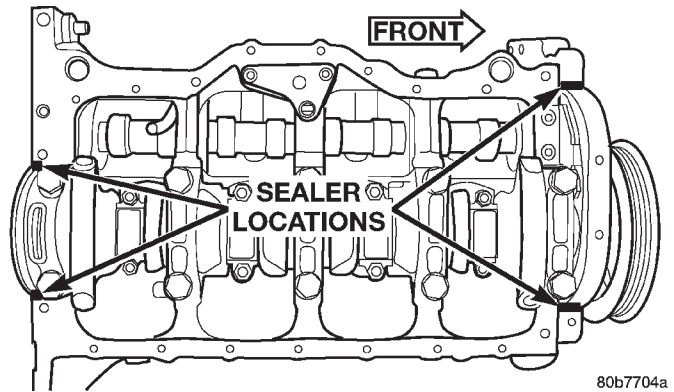
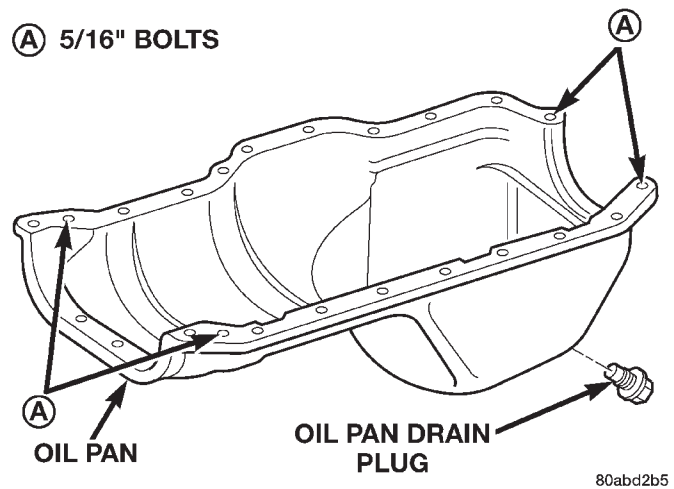

Fig. 60 Location of Mopar® Silicone Adhesive Sealant on Cylinder Block
Fig. 61 Position of 5/16 inch Oil Pan Bolts
(4) Apply Mopar® Silicone Adhesive Sealant onto the cylinder block in four location as shown (Fig. 60).
(5) Slide the one-piece gasket over the dowels and onto the block and timing case cover.
(6) Position the oil pan over the dowels and onto the gasket.
(7) Install the 1/4 inch oil pan bolts. Tighten these bolts to 9.5 N·m (84 in. lbs.) torque. Install the 5/16 inch oil pan bolts (Fig. 61). Tighten these bolts to 15 N·m (132 in. lbs.) torque.
(8) Remove the dowels. Install the remaining 1/4 inch oil pan bolts. Tighten these bolts to 9.5 N·m (84 in. lbs.) torque.
(9) Lower the engine until it is properly located on the engine mounts.
(10) Install the through bolts and tighten the nuts.
(11) Lower the jack stand and remove the piece of wood.
(12) Install the flywheel and torque converter housing access cover.
(13) Install the engine starter motor.
(14) Connect the exhaust pipe to the hanger and to the engine exhaust manifold.
(15) Install the oil pan drain plug (Fig. 61). Tighten the plug to 34 N·m (25 ft. lbs.) torque.
(16) Lower the vehicle.
(17) Connect negative cable to battery.
(18) Fill the oil pan with engine oil to the specified level.